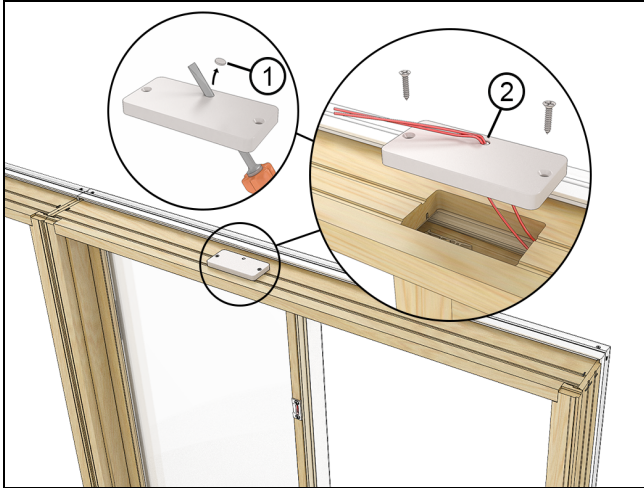

Figure 23 Transmitter cover shown removed for illustrative purposes.
1. Vertical Mulls: Remove the knock-out tab from the plastic transmitter cover at the head jamb to route wires into the rough opening. See Figure 23.